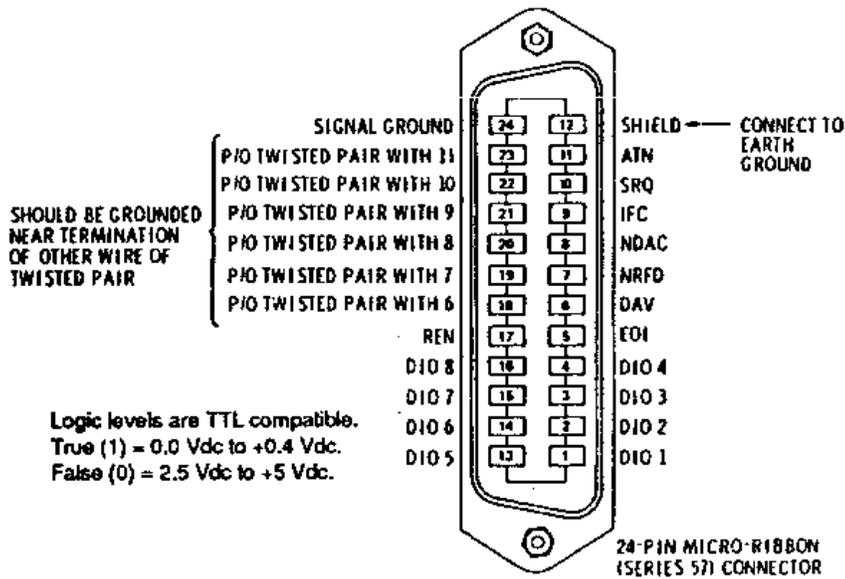

Figure 3-12. GPIB Wiring Connector Pin Out
Remote operation of the Model 98 is very similar to local operation, except that the commands are entered and received using an external Controller, and not by pressing keys and observing the display and indicators on the front panel. The GPIB connector permits remote control of all functions except Power switch (1), Display Intensity (38), Amplitude Units (5), Local key (43), and GPIB Address key (45). Refer as necessary to Section 2 for descriptions of controls, indicators, and connectors, and individual operating procedures (paragraphs 3.2.2 thru 3.2.5). GPIB connector wiring data is shown in figures 3-12 and 3-13.